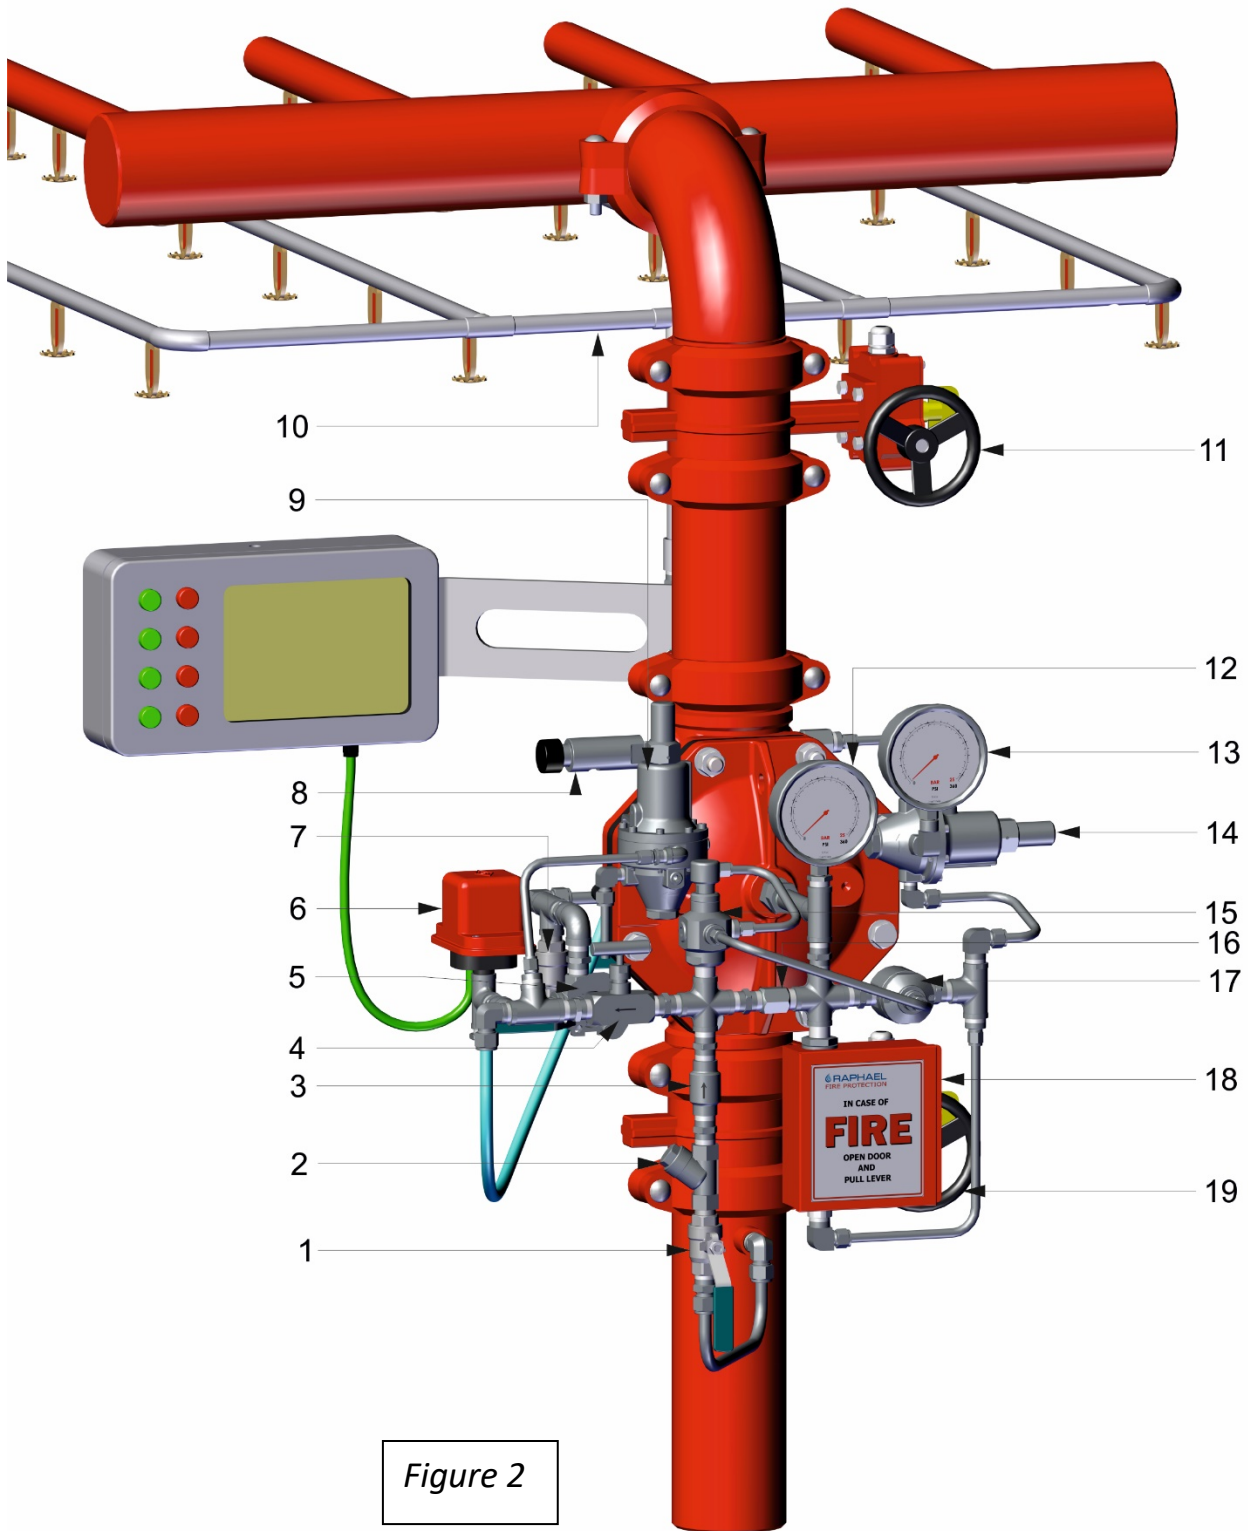

Figure 2
## **Installation** (reference drawing – figure 2)
9. All connections to water supply, alarms etc. should be done in accordance with figure 2:
(Reference Drawing - figure 2)
### **Resetting & placing in service** (Reference Drawing - figure 2).
### Reference figure 2